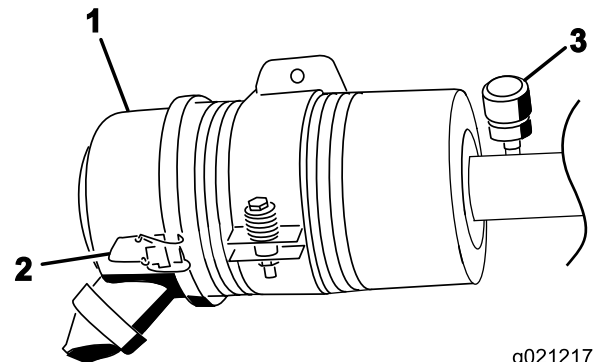

Figure 81
Service the air-cleaner filter only when the service indicator requires it (Figure 81). Changing the air filter before it is necessary only increases the chance of dirt entering the engine when you remove the filter.
2. Release the latches securing the air-cleaner cover to the air-cleaner body (Figure 81).